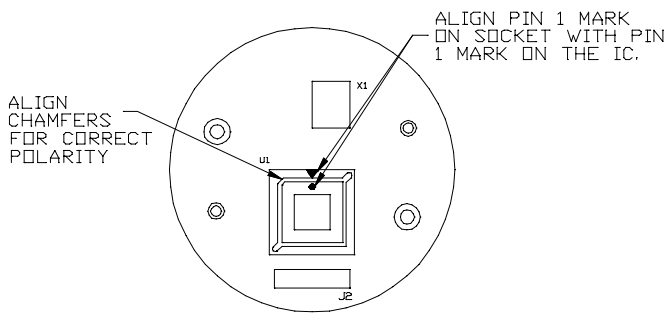

Figure 3. Rear Side of Display Board
7. Using the Retrofit Kit Chip Extractor Tool (provided in the Kit), remove the programmed Microcomputer Chip from the Display board. Replace with Chip (P/N 10016200), observing Chip polarity (FIGURE 3).